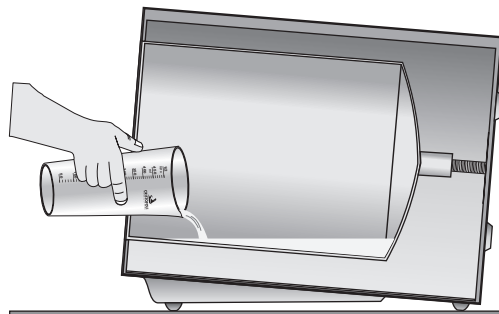

Fig. 13
- Open the door of the autoclave and use the measuring cup provided to pour 100 ml of **distilled water** directly into the chamber **before** each cycle (Fig. 13) according to the table below.